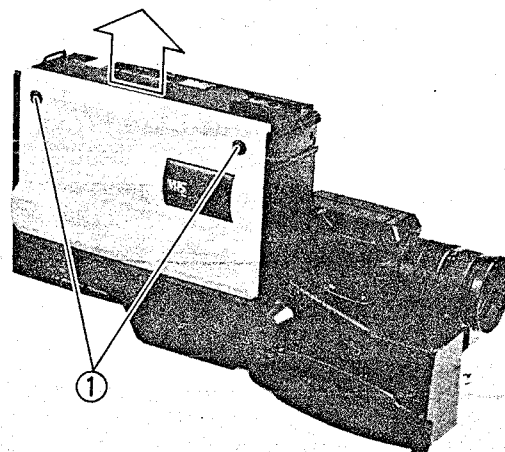

Fig. 2-4 Cassette Lid Removal
Cassette Lid Removal (Fig. 2-4)
4. Remove the cassette lid. (See Fig. 2-4)